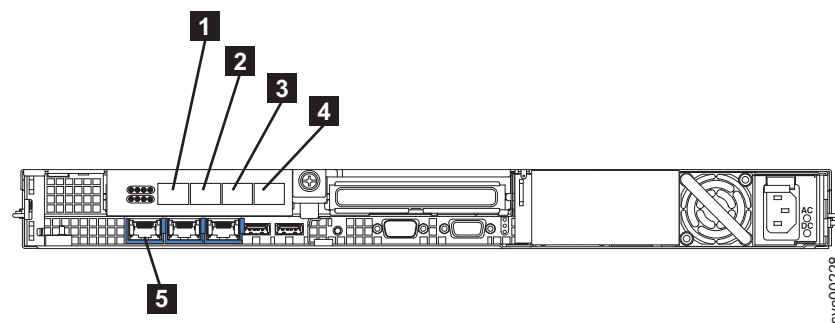

Figure 28. SAN Volume Controller 2145-8G4 Ethernet and fibre-channel connectors
1. Connect the Ethernet cable to Ethernet port 1 **5** in Figure 28.